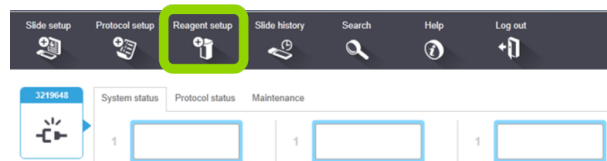

Figure 57: Reagent setup icon
1. Select the **Reagent Setup** icon (see Figure 57).